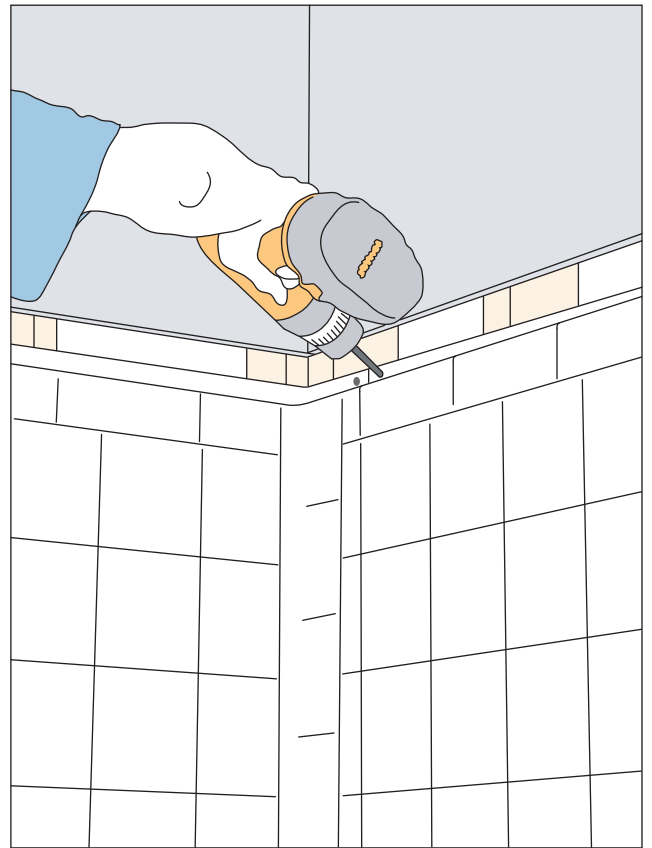

Figure 12
12. Screw the flanges to the studs, angling slightly downward to help snug the walls to the pan. Shim as needed. **See Figure 12**